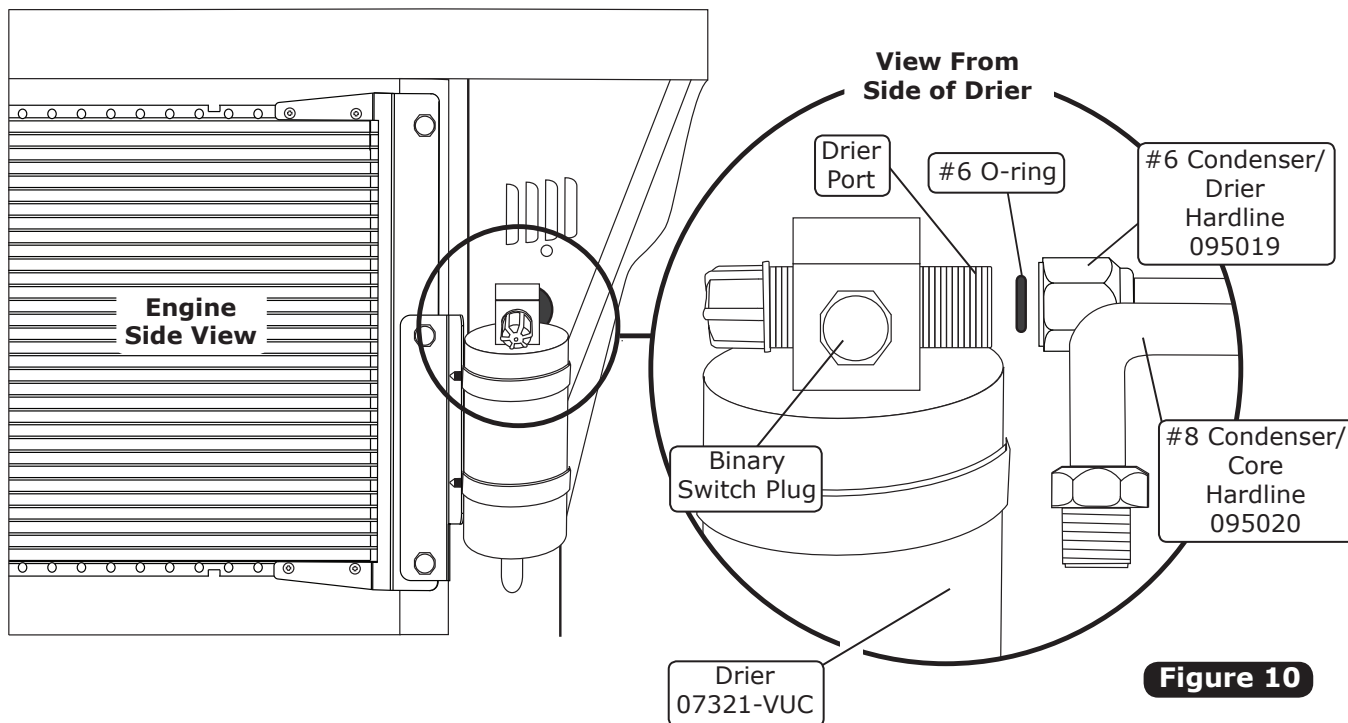
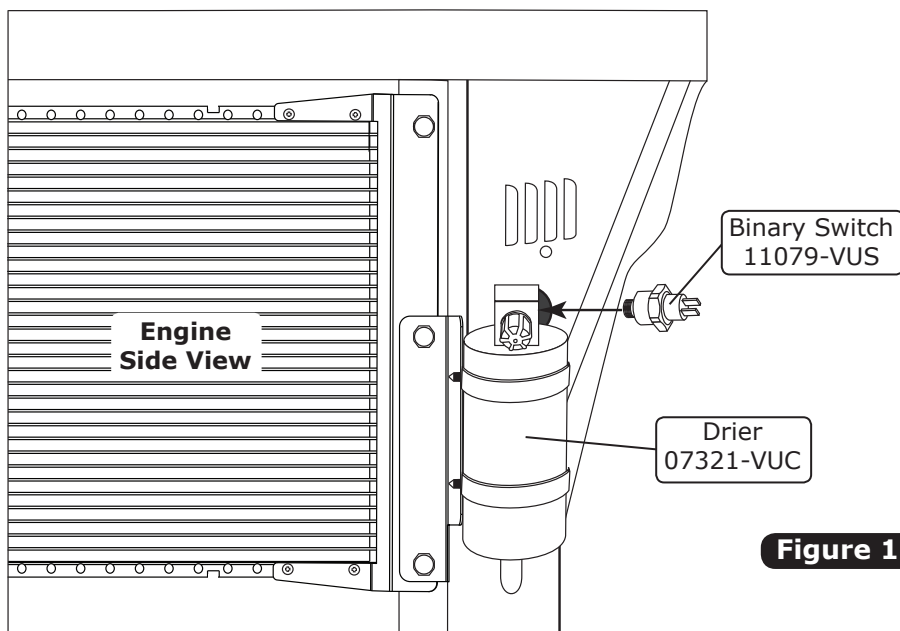

Figure 10
Figure 11
1. Lubricate a #6 O-ring (See Figure 7, Page 8), and install the #6 condenser/drier hardline coming through the core support onto the drier port as shown in Figure 10, below. **NOTE: Tighten the OEM bolts securing the drier bracket at this time.**
1. Remove the plug on the drier, and install the binary switch as shown in Figure 10, above, and Figure 11, below.